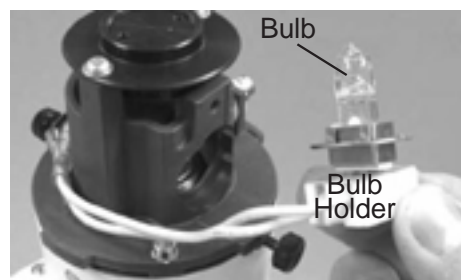

Figure 31 Bulb
4. Gently pull out the Bulb Holder and Bulb. Refer to Figure 31.